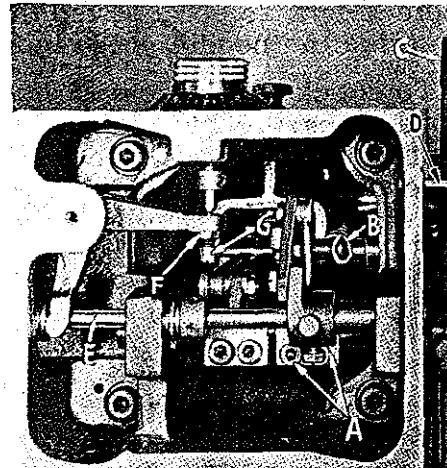
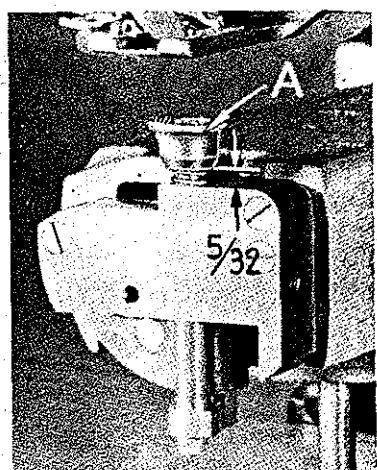
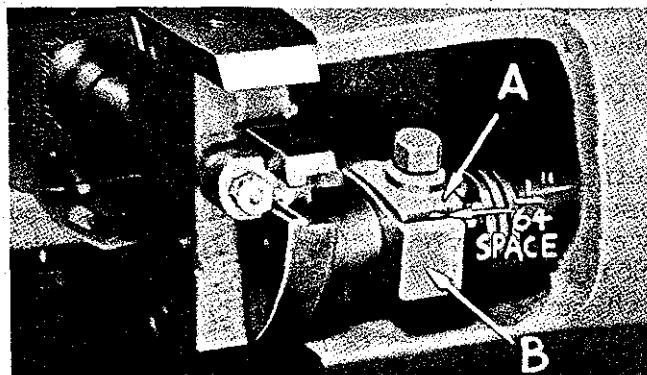
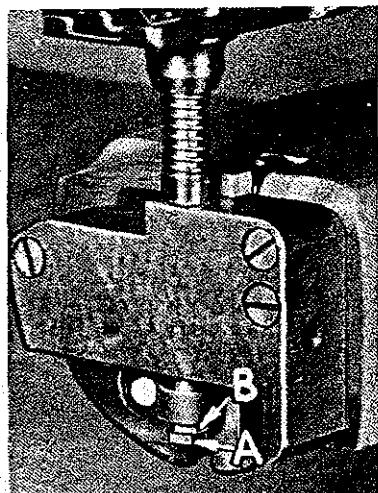

Fig. 8
Fig. 9
Fig. 10
Fig. 11
shaft (E) clockwise until bottom of work clamp (A, Fig. 9) is $5/32$ inch above plunger bearing block. Tighten clamp screws (A, Fig. 8) and re-engage spring (B).
With machine in stop position, tilt machine on side, pull penetration dial out, and turn clockwise as far as it will go. Loosen locknut (F, Fig. 8), and adjust screw (G) until space between plunger block (A, Fig. 10) and crank (B) is $1/64$ inch. Lock nut (F, Fig. 8) securely. Tip machine back, engage clutch, and turn pulley in operating direction until point of looper is over center of needle. Loosen locknut (A, Fig. 11) and adjust plunger up or down by means of nut (B) until point of looper just contacts needle. Lock nut (A) securely.
The distance the work clamp opens for insertion of work is set at the factory and usually does not have to be adjusted. Should it become necessary to do so, the proper setting may be obtained as follows: Tip machine on its side and loosen clamp screws (A, Fig. 8). Disengage spring (B) from crank roll. Depress lever (C) until it rests against its stop pin (D). Turn plunger